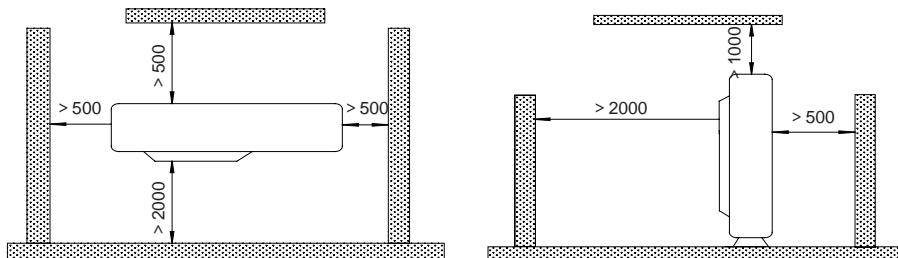

Fig.3
- (1). Install the outdoor unit in a place where it will be free from being dirty or getting wet by rain as much as possible.
- (2). Install the outdoor unit where it is convenient to connect with the indoor unit.
- (3). Install the outdoor unit where the condensate water can be drained out freely during heating operation.
- (4). Do not place animals and plants in the path of the warm air.
- (5). Take the air conditioner weight into account and select a place where noise and vibration are small.
- (6). Install the outdoor unit where it is capable of withstanding the weight of the unit and generates as less noise and vibration as possible.
- (7). Provide the space shown in Fig.3, so that the air flow is not blocked. Also for efficient operation, leave three of four directions of peripheral constructions open.